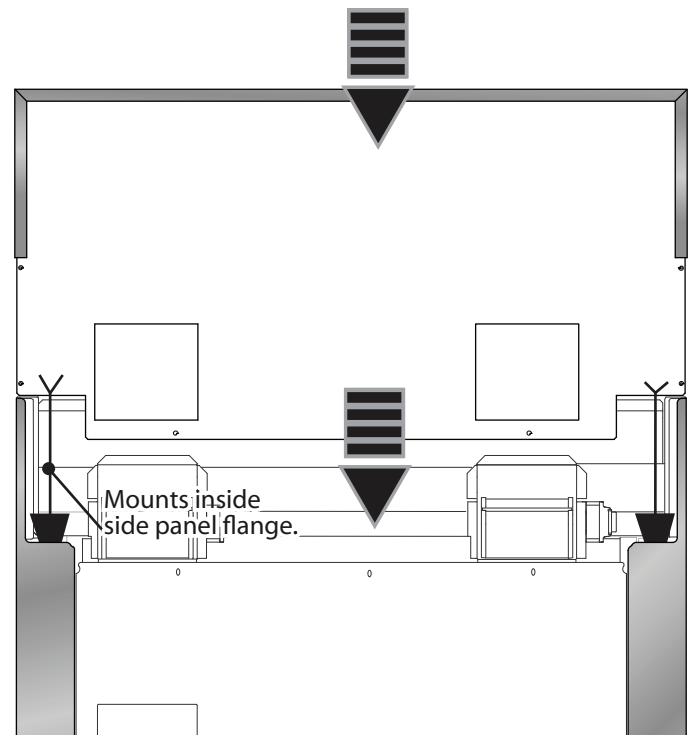

Figure 23: Backguard Installation
3. Align the back panel of the new accessory with the flanges on the range side panels right and left rear corners. The backguard is inserted inside the guide channels on the back of the range (Figure 23).